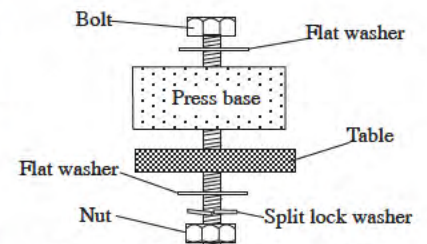

Figure 2. Fastening illustration
4. Place the press back on your table edge, line up the holes on the press base with the holes on the worktable, and fasten the press to your table. You should have one flat washer on top, one flat washer and one split lock washer at the bottom of the table as illustrated in Figure 2.